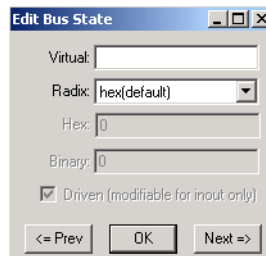

Figure 8-8. Edit Bus State Dialog Box
1. **Double click the middle of a segment to open the Edit Bus State dialog, as shown in Figure 8-8.**